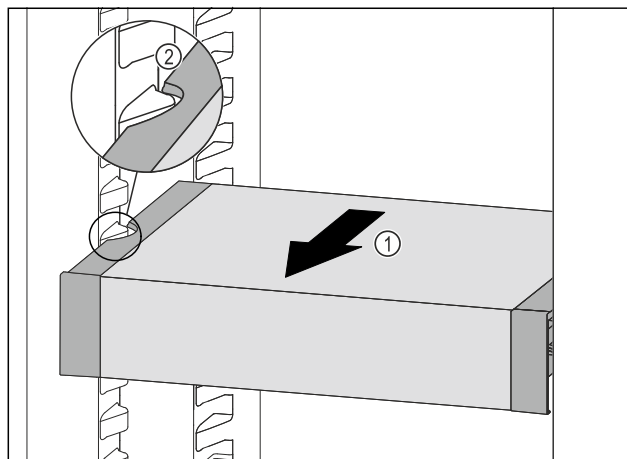

Fig. 222
- ▶ Pull VarioSafe forwards Fig. 222 (1) until the recesses in the side of the VarioSafe are at the level of the support rib in the fridge section. Fig. 222 (2)